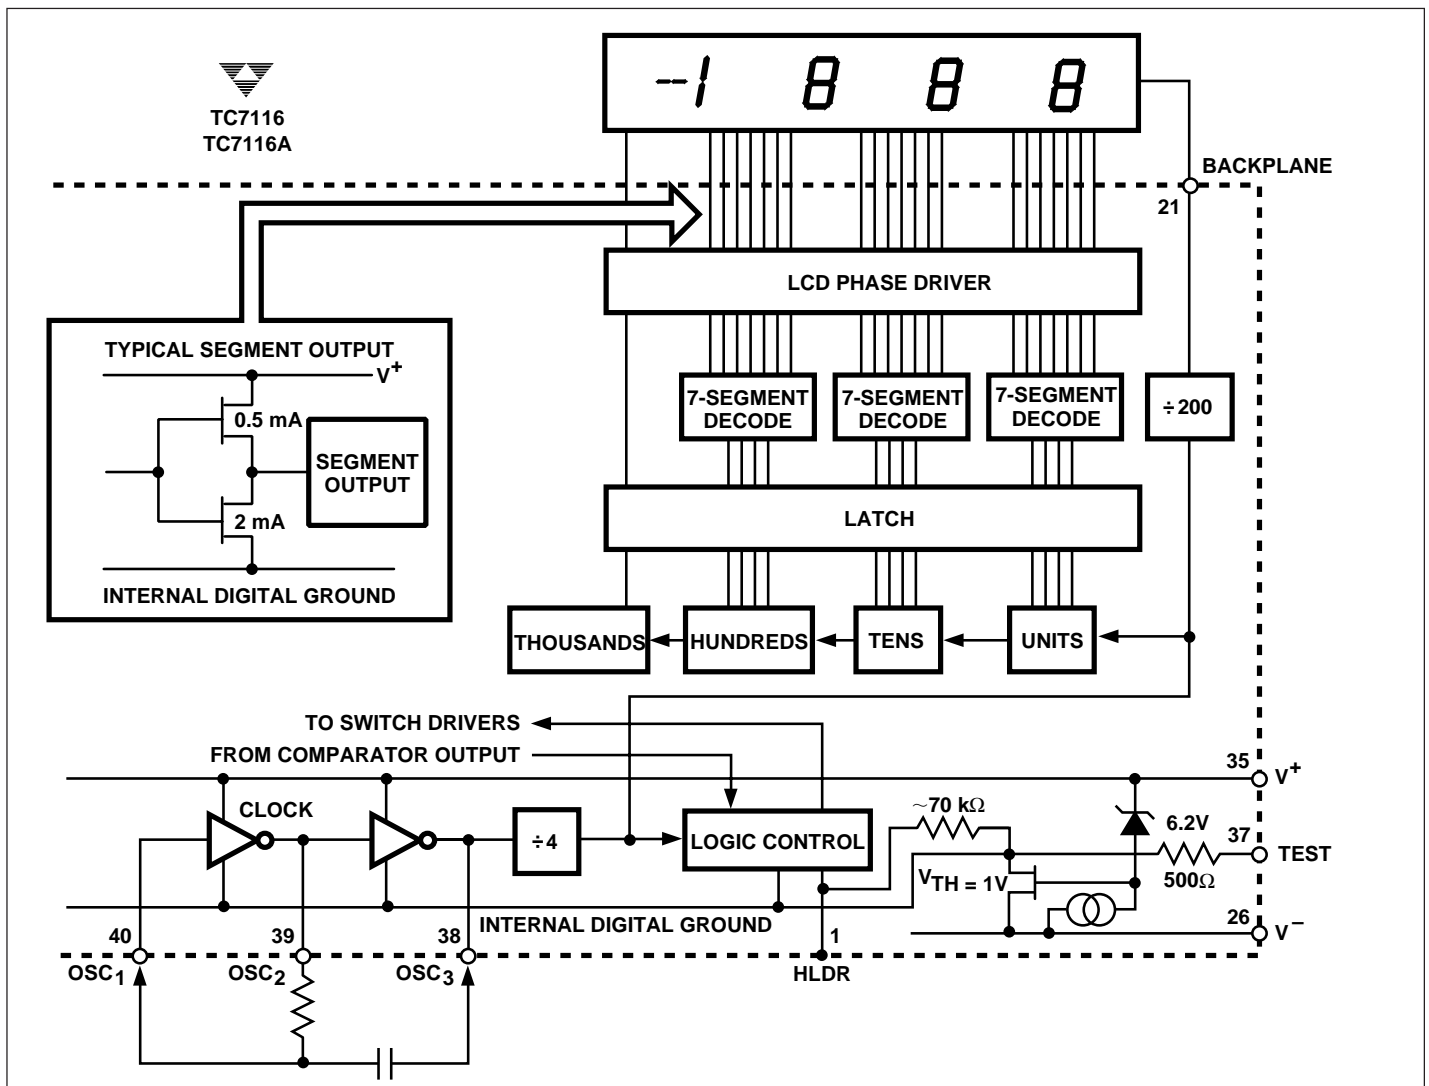

Figure 8. TC7116/TC7116A Digital Section
Figures 8 and 9 show the digital section for TC7116/TC7116A and TC7117/TC7117A, respectively. For the TC7116/TC7116A (Figure 8), an internal digital ground is generated from a 6V zener diode and a large P-channel source follower. This supply is made stiff to absorb the relative large capacitive currents when the backplane (BP) voltage is switched.